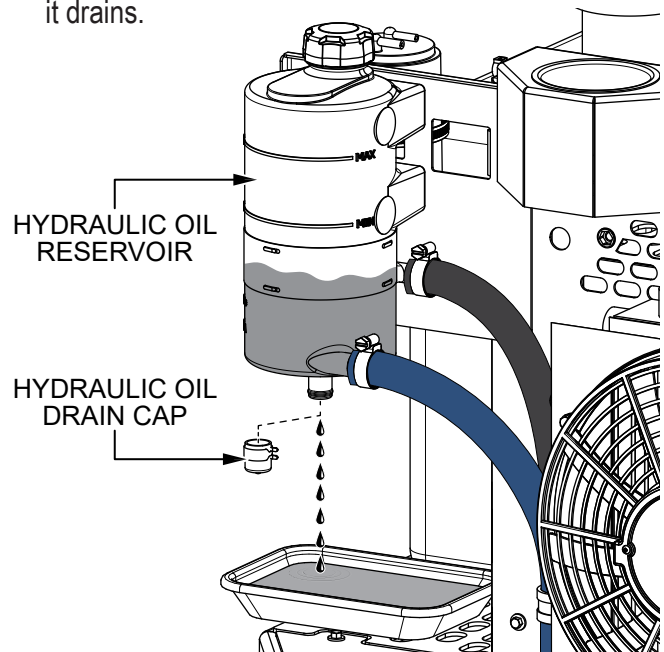

Figure 37. Draining The Hydraulic Oil
1. Place an appropriate container beneath the **hydraulic oil reservoir** (Figure 37) to catch the hydraulic oil as it drains.
2. Remove the **hydraulic oil drain cap** (Figure 37) and allow the hydraulic oil to drain completely from the reservoir. Replace the drain cap when finished.